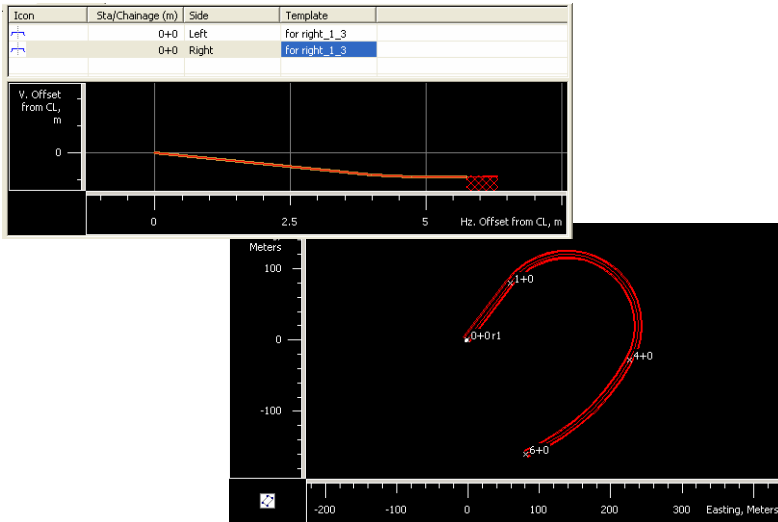

Figure 9-63. Example Using One Template
- Click **OK** to add this template to the central line of the road for the start station. The template will display in the Table and Graphic panes of the right panel of the tab and in CAD View. Topcon Tools applies interpolation to cross sections from the first station to either the last station of the road (using only one template (Figure 9-63) or to the start station of the next template.